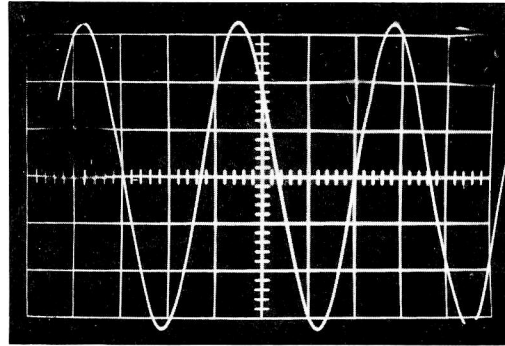

Figure 3-7. Line Freq. Display
b. The LINE FREQ signal is useful for checking low frequency operation (period and low frequency multipliers) of digital counters and for checking sensitivity, trigger level, range and slope for counters and oscilloscopes. See Figure 3-7.